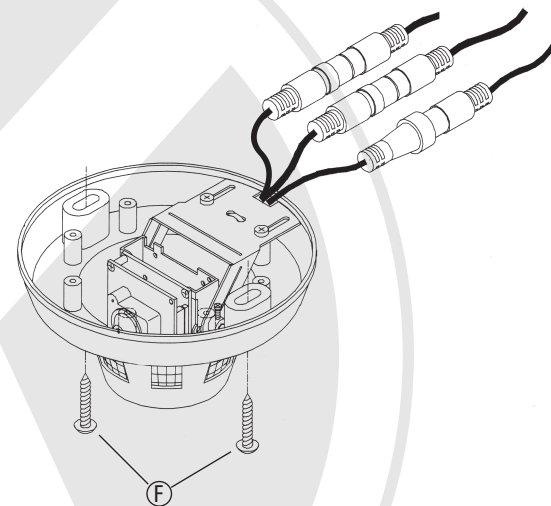

Figure 2
6. To secure the camera in your chosen position, mark the position of the holes, drill two holes in the ceiling and fix the camera using the wallplugs and fixing screws (F) as shown in Figure 2.